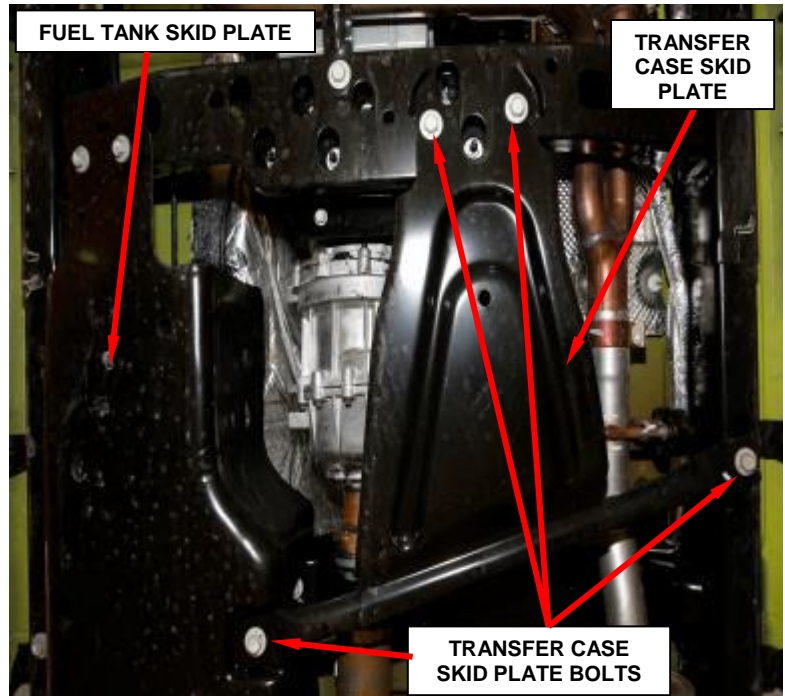

Figure 6 – Skid Plate
18. Remove and save the four transfer case skid plate bracket bolts and remove the transfer case skid plate (Figure 6).
20. Remove the eight bolts and partially lower the fuel tank to gain access to the fuel pump module electrical connector (Figure 6).